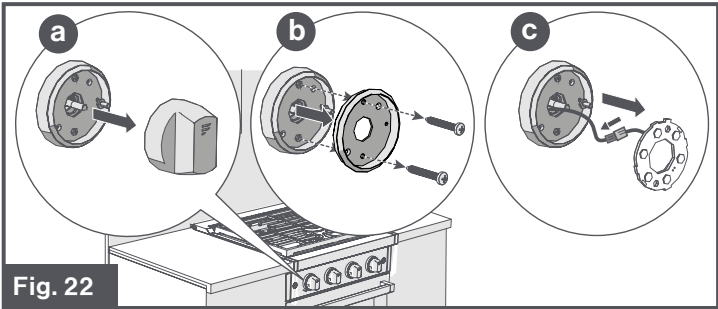

Fig. 22
- 1. Disconnect the oven from the power supply by means of the switch used to connect the appliance to the electrical mains or fuse. Grasp and pull out the control knob with the broken LED light. (Fig. 22 a)
- 2. Remove the two screws holding the LED light guide using a phillips screwdriver. (Fig. 22 b)
- 3. Remove the LED assembly after disconnecting the wire from the base of the LED PCB board. (Fig. 22 c)